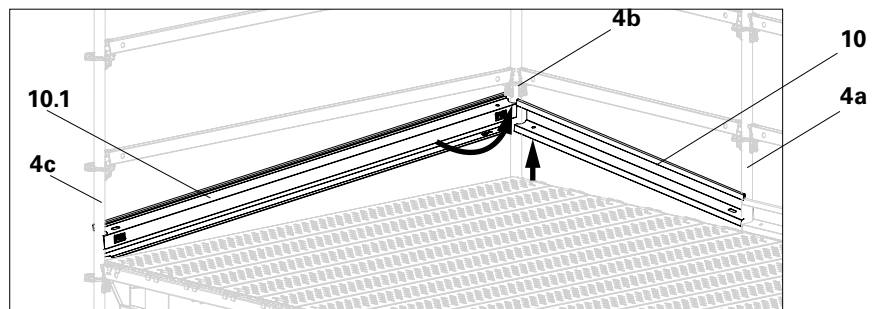

Fig. A2.18a
2. Pivot the Toeboard UPY (10) in the direction of the second Standard UVR (4b). (Fig. A2.18a)
1. Place Toeboard UPY (**10.1**) with recess (**10a**) obliquely on the Standard UVR (**4c**). (Fig. A2.18a)
2. Pivot the Toeboard UPY (**10.1**) in the direction of the second Standard UVR (**4b**). (Fig. A2.18a)
3. Semi-circle (**10c**) must be positioned on the axis of the Standard UVR (**4b**). (Fig. A2.18a)
4. Lift the second Toeboard UPY (**10**) on one side. (Fig. A2.18a)